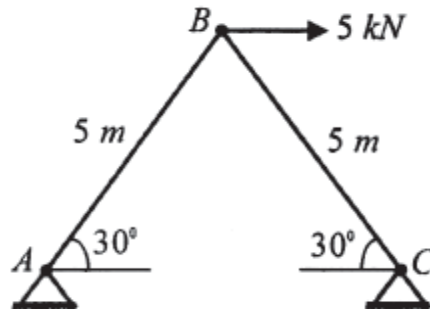

Figure 4.
- c) Analyze the two member truss shown in Figure 4 using stiffness matrix method. Take c/s area of each member 1000 mm^2 and $E = 200 \text{ GPa}$. The length of each member is 5m. [8]